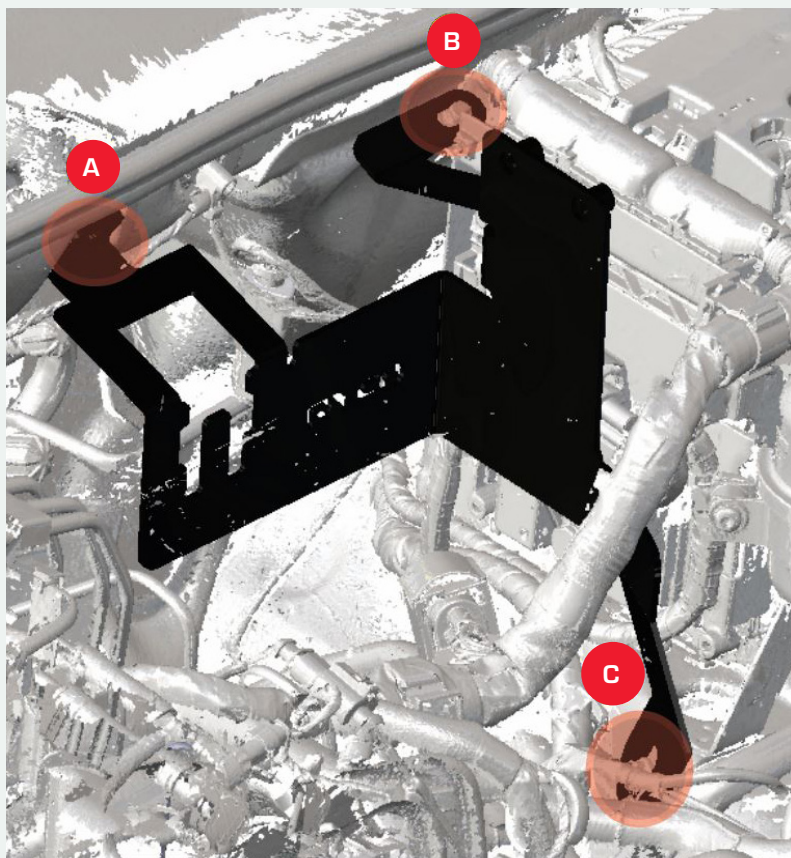

FIGURE 1
- 1 Unscrew the two factory flange bolts located at point B and C on Fig.1, page 6.
- 2 Position the bracket in the engine bay as per Fig. 1, page 6.